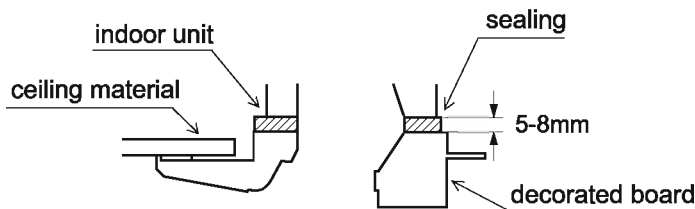

Fig.2
- Fasten the screw to keep the thickness of the sealing between the decorated board and the unit body within 5-8mm, as shown in Fig. 2.